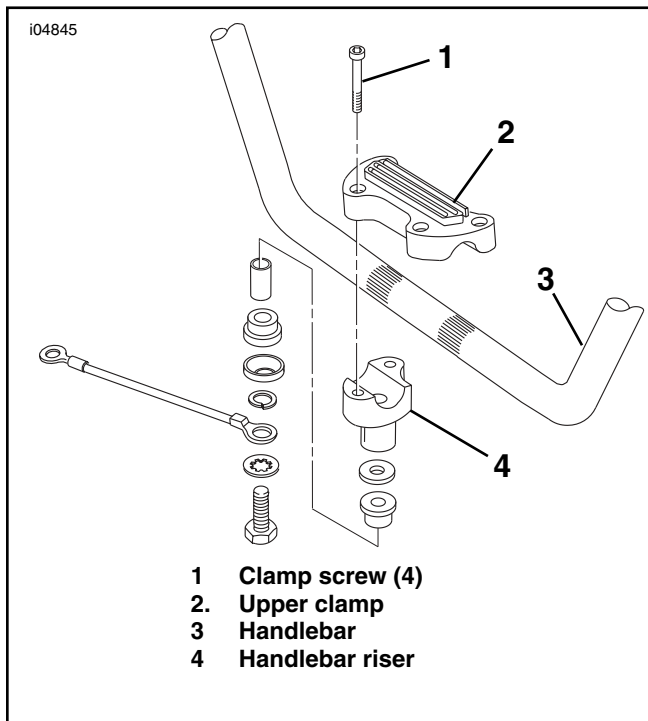

Figure 1. Removing the handlebar cover
7. See Figure 1. Remove and discard the four hex socket head screws (1) holding the stock handlebar upper clamp (2). Remove the upper clamp and discard.
8. Remove the handlebar (3) from the motorcycle.
9. Remove and discard the stock handlebar risers (4). Save the remaining hardware for later installation.